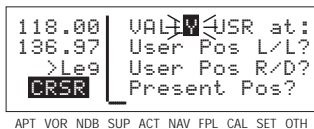

Figure 4-76
3. Spell out the rest of the identifier using the right inner and outer knobs (figure 4-76).